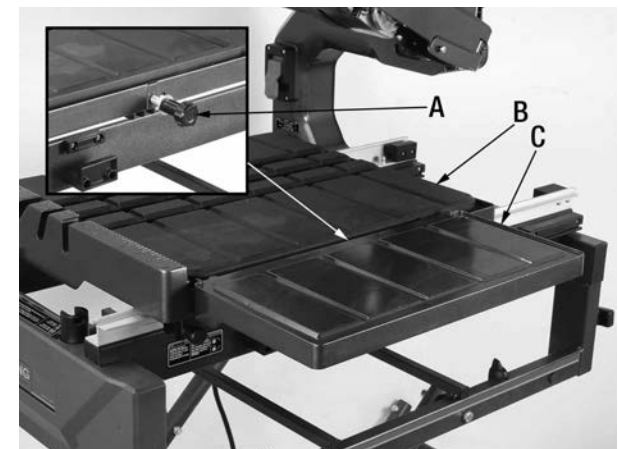

FIGURE 10
- 1) Loosely install extension table lock knob (A) Fig.10 into the front side of the sliding table (B).
- 2) Slide extension table (C) Fig.10 between the extension table lock knob (A) and the sliding table (B) as shown. Tighten extension table lock knob to secure extension table.